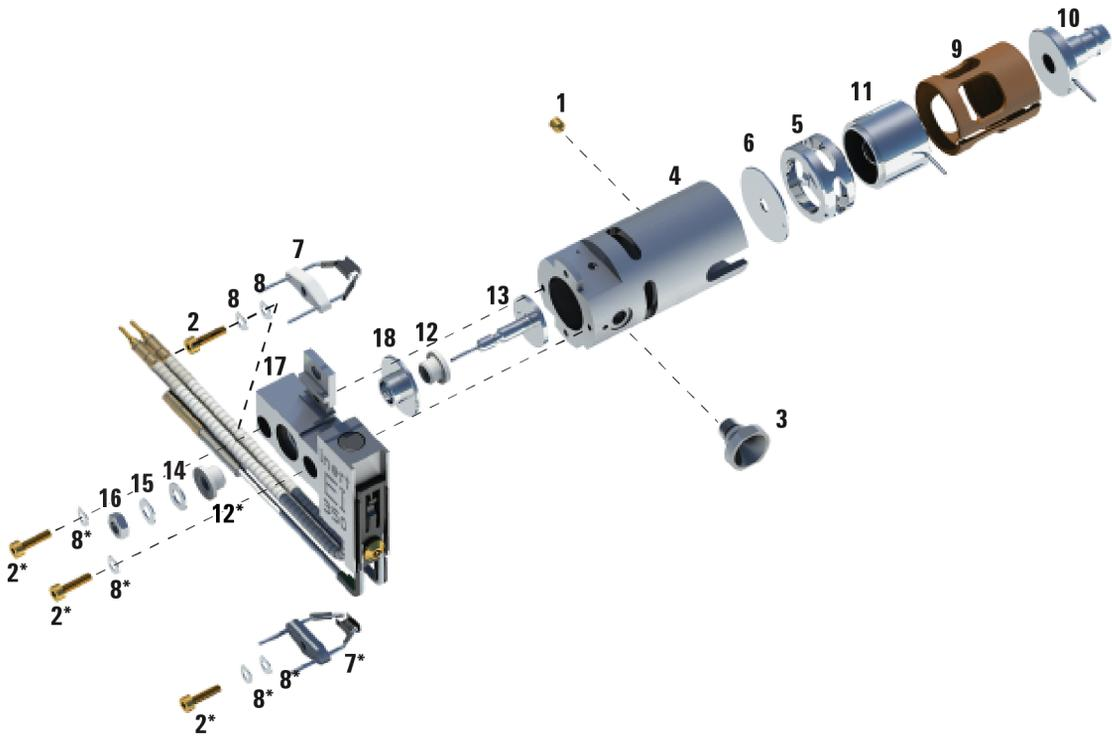

Figure 16 Assembling the standard or inert EI ion source
- a Install the repeller block insert into the source heater block assembly. (See Figure 16 on page 111.)
- 2 Insert the drawout plate and the drawout cylinder into the source body. (See Figure 16 on page 111.)
Table 21 Parts list for the standard or inert EI ion source (Figure 16)
Table 21 Parts list for the standard or inert EI ion source (Figure 16) (continued)